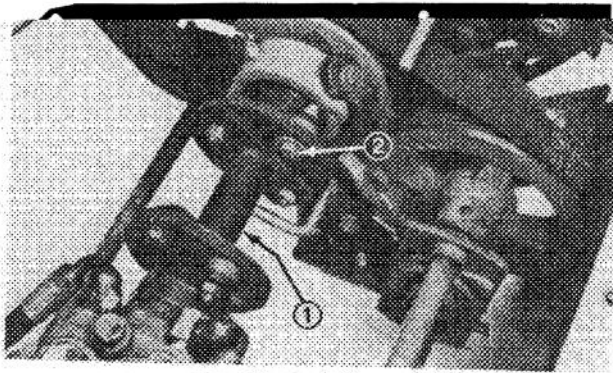

Figure 73
2. Remove capscrews, locknuts and spacers securing drive coupling assembly between engine hub and transmission hub (Fig. 73). Slide drive coupling assembly from between the hubs.
2. Slide two cap screws through transmission hub and install locknuts onto the cap screws (Fig. 73). Tighten cap screws and locknuts. Secure other end of rubber coupling to engine hub in the same manner.